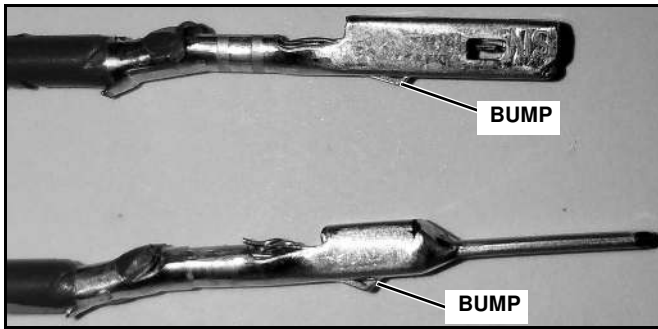
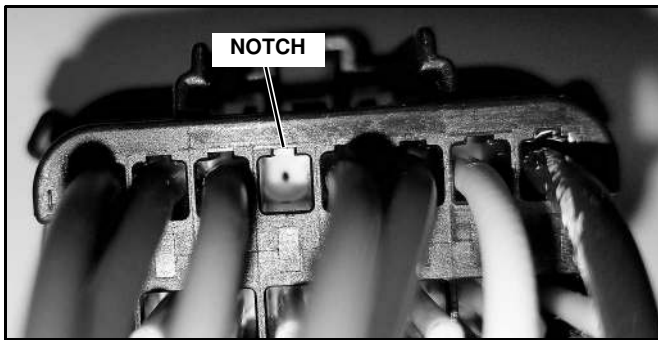

Figure 3
Figure 4
- C. Insert the two blue with white stripe wires into one headlight adapter. One wire has a male terminal and the other has a female terminal. Push them into back of the 16 pin connector; they can only enter one way. So make sure that bump in the terminals line up with the notch in the pin cavity. Push in the secondary lock when complete. (See Figure 3 and Figure 4.)